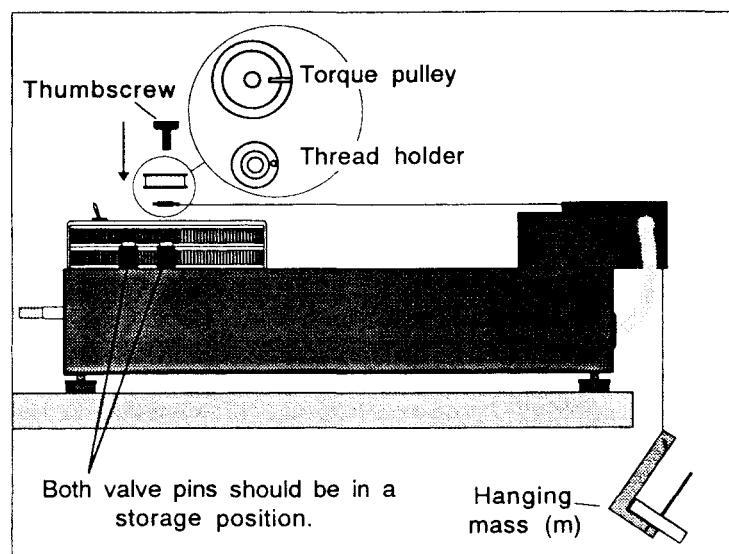

Figure 2.1 Equipment Setup
- ① Set up the equipment as shown in Figure 2.1. Use the steel disk as the top disk, and use the small torque pulley.
- ② Attach the mass hanger (with a 20g mass) to the end of the thread. With the thread extended, the mass should almost reach the floor.
- ③ Adjust the pressure of the compressed air to approximately 9 psi.
- ④ Check that the bottom disk sits firmly on the base plate (only the top disk should spin).
- ⑤ Record the hanging mass (m), the radius of the torque pulley (r), and the mass of the rotating disk (M) in Table 2.1. Be sure to include the mass of the hanger, 5g, in your value for m .